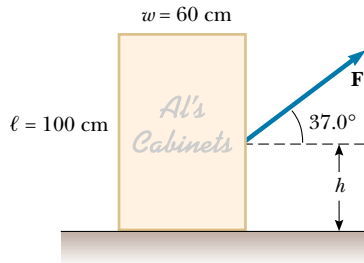

Figure P12.53 Problems 53 and 54.
53. A force acts on a rectangular cabinet weighing 400 N, as illustrated in Figure P12.53. (a) If the cabinet slides with constant speed when $F = 200\text{ N}$ and $h = 0.400\text{ m}$,